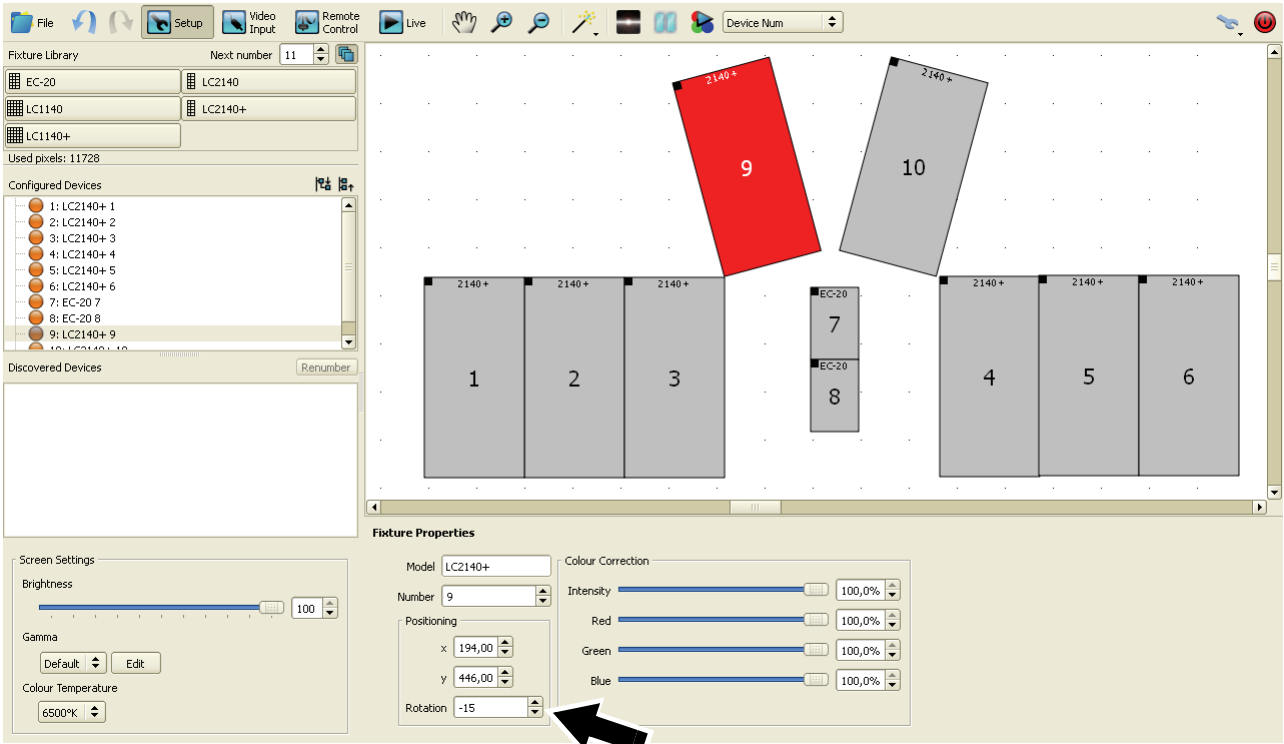

Figure 14: Panel rotation in Setup view
11. See Figure 14. You can now fine-adjust the position of the panels on the canvas until the panel layout in your on-screen installation exactly matches the layout in the physical installation:
- Also under **Positioning**, you can rotate a panel by entering a value in the **Rotation** box (arrowed). Enter a negative value to rotate counterclockwise. Panels 9 and 10 in Figure 14 have been rotated.